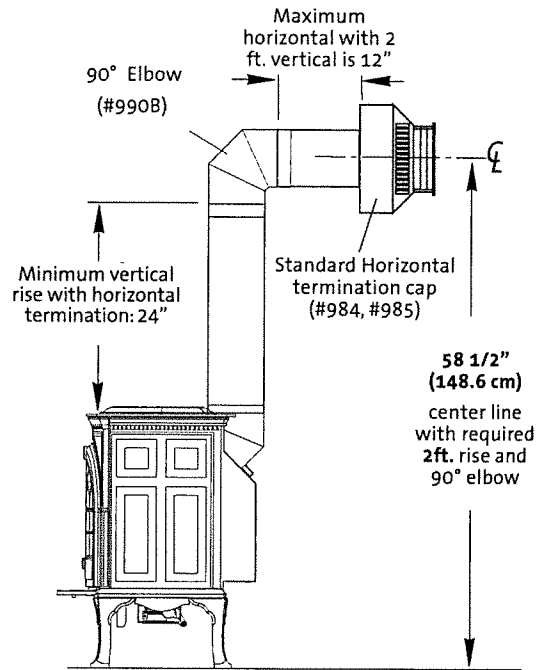

Figure 10. A vertical run in a horizontal termination must be at least 2 feet (61 cm).
- **Minimum vertical rise** from the top exit position is a 24" section vent pipe. See Fig. 10.